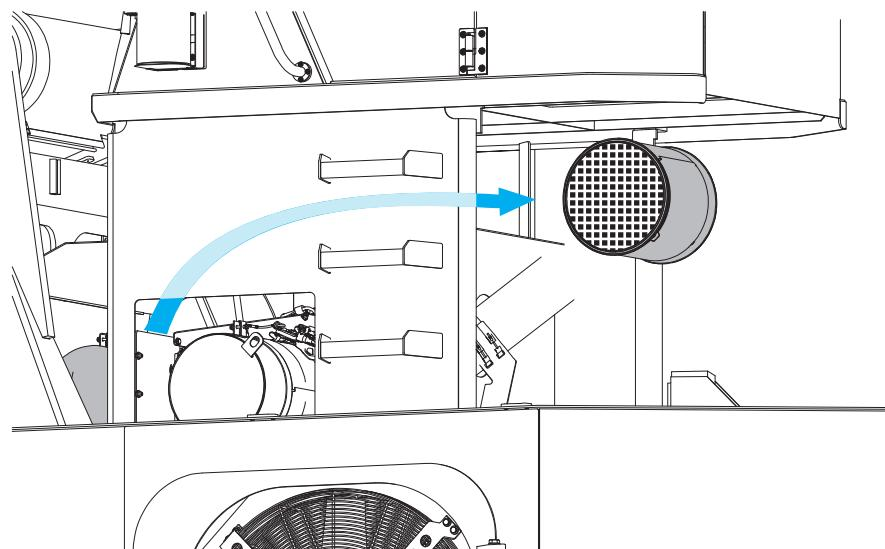

Figure 5-5-17 Removing Diesel Particulate Filter
The Diesel Particulate Filter (DPF) is mounted just in front of the superstructure assembly. See Figure 5-5-17.
4. Remove the DPF. Route through the superstructure. See Figure 5-5-17.